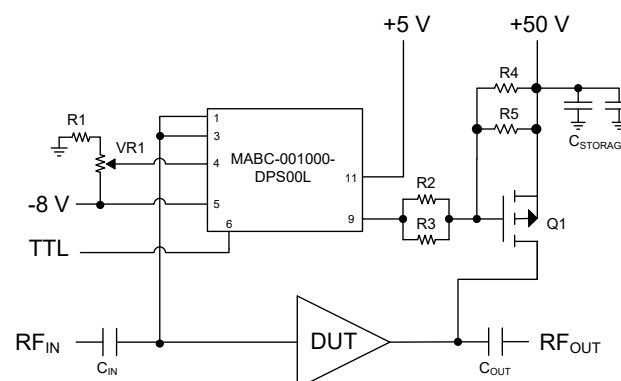

Figure 1. Fixed Gate/Pulsed Drain Biasing
- A voltage follower op-amp circuit provides a low impedance output to Pin 3 (GCO) Gate Voltage (-) Control Output. Pin 3 (GCO) output is connected to the gate terminal of a DUT as shown in Figure 1 on page 5.
- The reference voltage for the voltage follower is provided by the Pin 4 (GCI) Gate Voltage (-) Analog Input. This input reference voltage is developed by an external potentiometer/ resistive divider circuit as shown in Figure 1 on page 5. It is recommended to use the -8 V to -3 V voltage that is also applied to Pin 5 (VGS).
- An N-Channel MOSFET develops the pulsed signal (SWG) to drive the resistive divider network for the gate of an external p-Channel HEXFET as shown in Figure 1 on page 5. The input signal for the internal MOSFET is provided by the output from the sequencing circuits.
Figure 1 shows a block diagram of the MABC-001000-DPS00L module with the recommended external components to support this application option. See Table 1 for component recommendations and values.